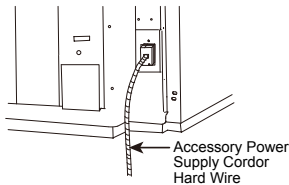

Fig.15—Power Connection
3.Connect accessory power supply cord or hard wire connector to unit connector.See Fig. 15.